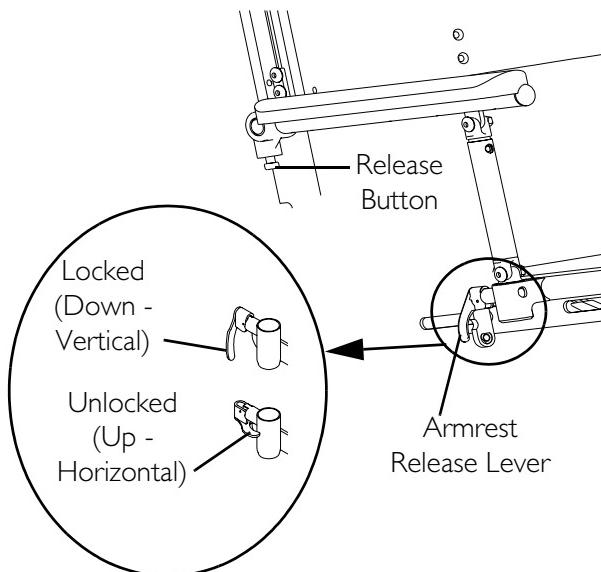

FIGURE 7.5 Removing/Installing Reclining Armrests
NOTE: For this procedure, refer to FIGURE 7.5.
1. Position the armrest on the seat frame as shown in FIGURE 7.5.